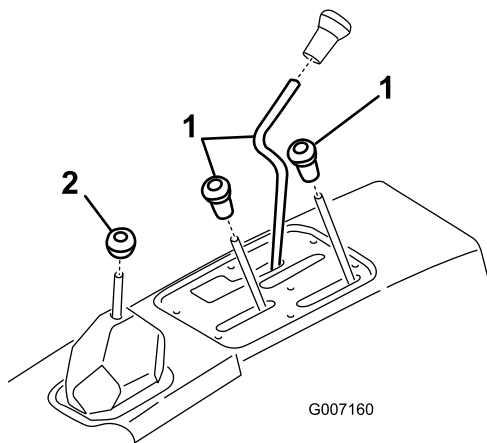

Figure 2
2. Unscrew and remove all knobs from console levers and from the gear shift lever (Figure 2).